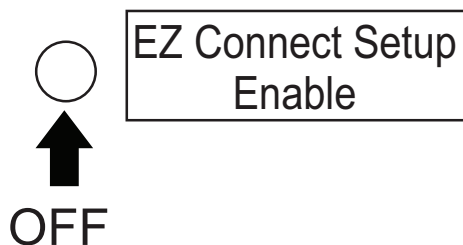

Figure 152. EZ Connect Setup Enabled Status Indicator (OFF)
3. Verify that the **EZ Connect Setup Enabled** status indicator (Figure 152) is **OFF**.